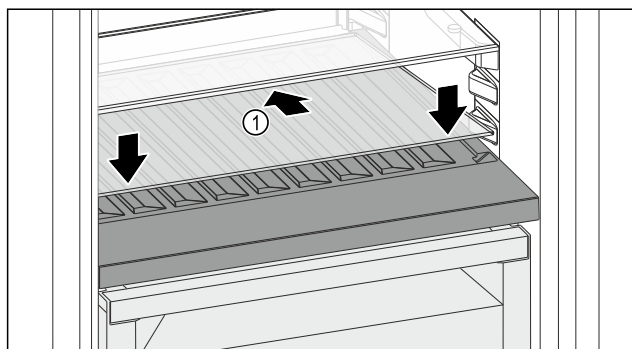

Fig. 112
- Place the glass shelf Fig. 112 (1) at an angle, sloping it downwards and backwards.
- Lower the glass shelf Fig. 112 (1) at the front.